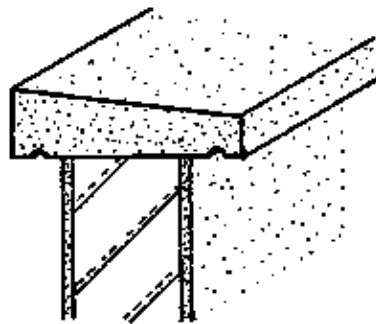
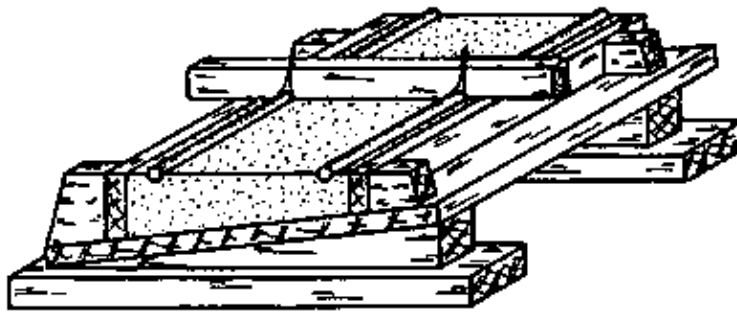

Fig. 4
Fig. 5
– SPLAYED COPING: The splayed coping in Fig. 4 can also be made in two ways, in a fashion similar to the saddle-back coping above (Figs. 5 & 6).